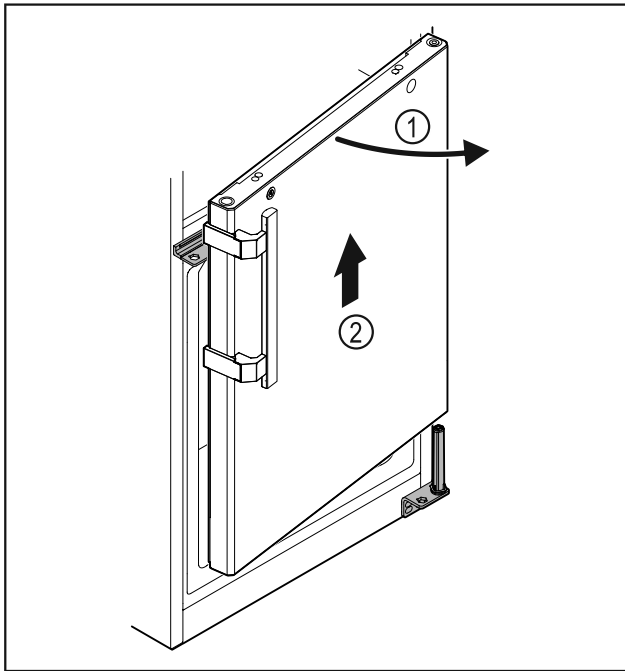

Fig. 27
- ▶ Open the door Fig. 27 (1) slightly, lift it straight up by around 200 mm and take it off Fig. 27 (2).